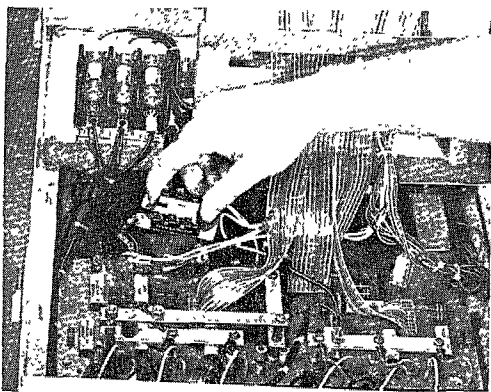

FIGURE 38
2. Remove the 6 stab connectors located on each molded plastic SCR bridge. These are located on the top front of the power module heat sink. One bridge for single-phase units and two bridges three-phase units. (see Fig. 38)
3. To replace the SCR bridge packages, remove the two machine screws, with lock washers and flat washers. Lift out the packages. (see Fig. 38)